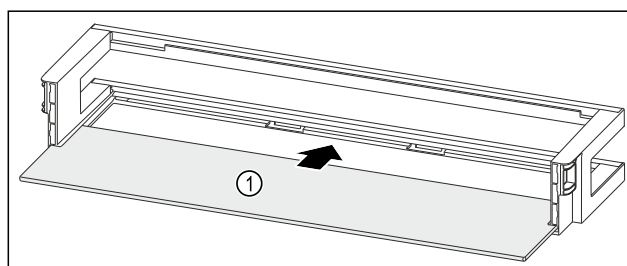

Fig. 135 Door rack with shelf
- Push the shelf *Fig. 135 (1)* into the side recesses.